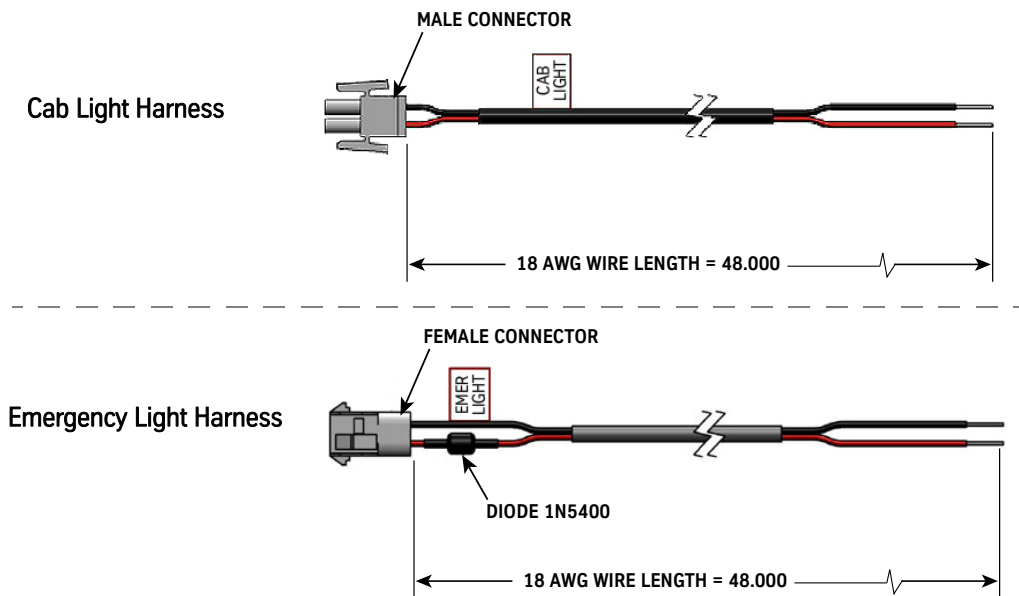

Figure 1 - Power Supply Harnesses
- a. Locate the cab light and emergency light harnesses (shipped loose). See Figure 1.